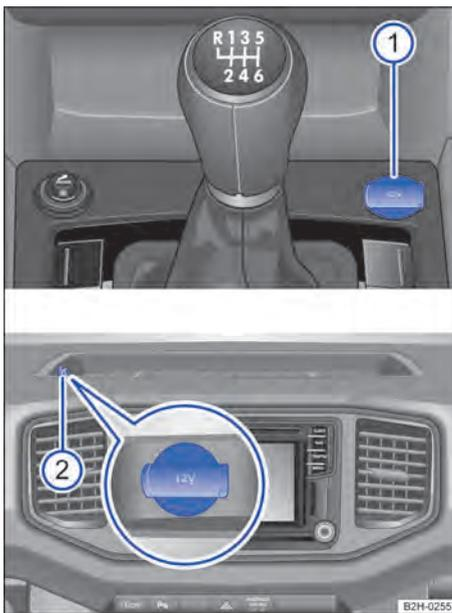

Fig. 126 12-volt sockets in the front.
- In the front centre console → Fig. 126 ①.
- In the stowage compartment in the dash panel → Fig. 126 ②.